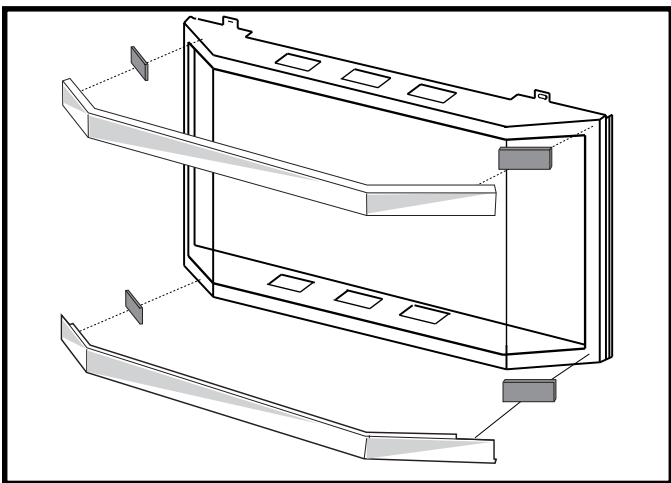

Fig. 39. Attach magnets and brass trim to the steel frame.
- 6) Install brass trim to the steel frame as per Fig. 39 (Only for HESBTKP trim)
- 7) Install brass trim to the steel frame as per Fig. 39.